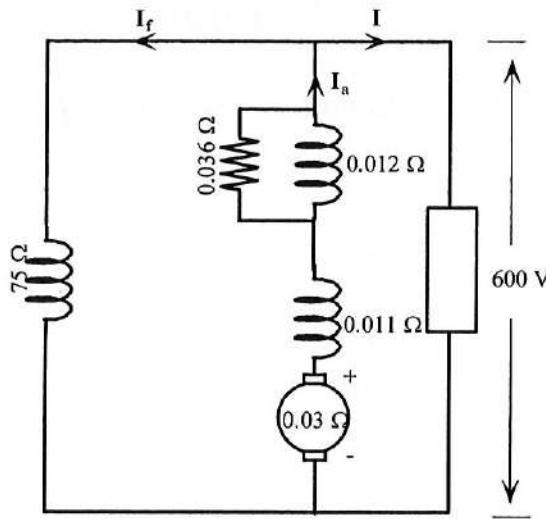

Figure Q5(a) / Rajah Q5(a)
- Q5 (a) The following information is given for a 300 kW, 600 V, long shunt compound generator as shown in Figure Q5(a). Shunt field resistance = 75Ω , armature resistance including brush resistance = 0.03Ω , commutating field winding resistance = 0.011Ω , series field resistance = 0.012Ω , divertor resistor = 0.036Ω . When the machine is delivering full load, calculate the voltage and power generated by the armature.